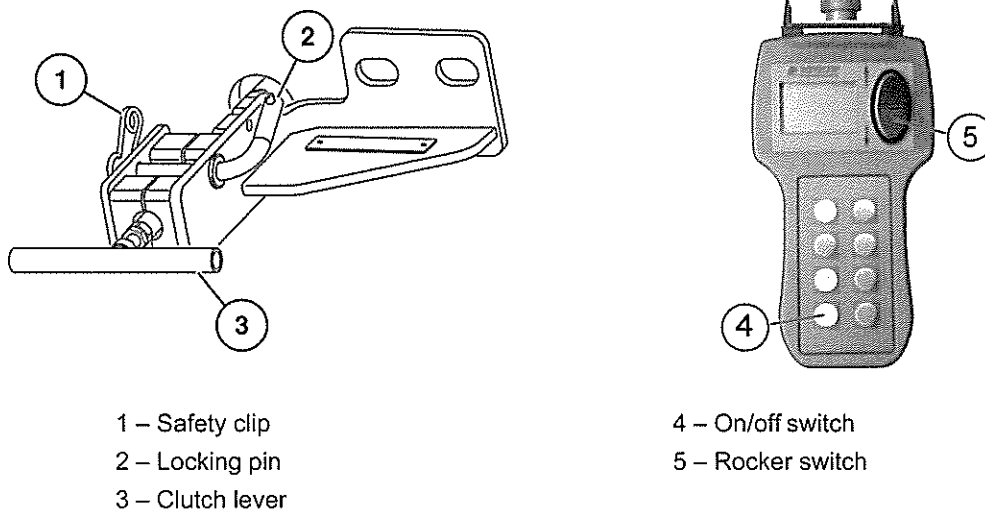

Fig 6 Self recovery
- 15 Refer to Fig 6. Observe the movement of the rope and the entire hazard area during the recovery.